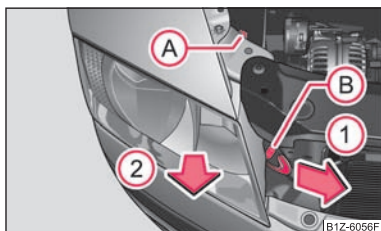

Fig. 147 Removing the headlight
- Unscrew the plastic nut (A) ⇒ fig. 147.
- Pull the fuse (B) in upward direction.
- Pull the locking lever of the headlight as far as the stop in the direction of arrow (1).
- Unplug the plug connector and carefully take out the headlight in the direction of arrow (2).